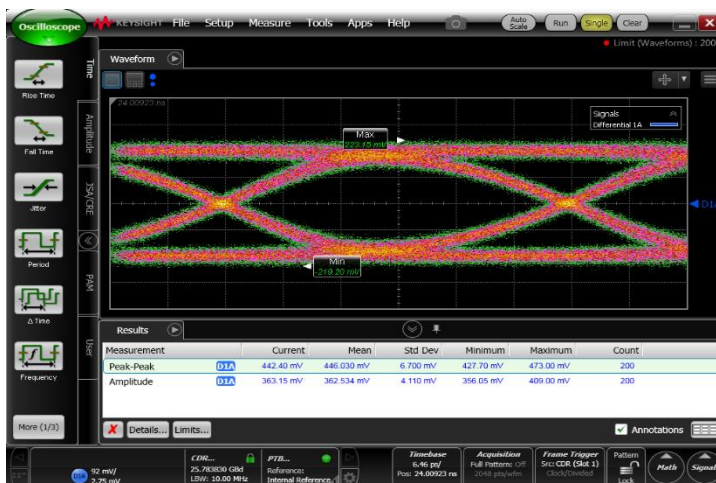
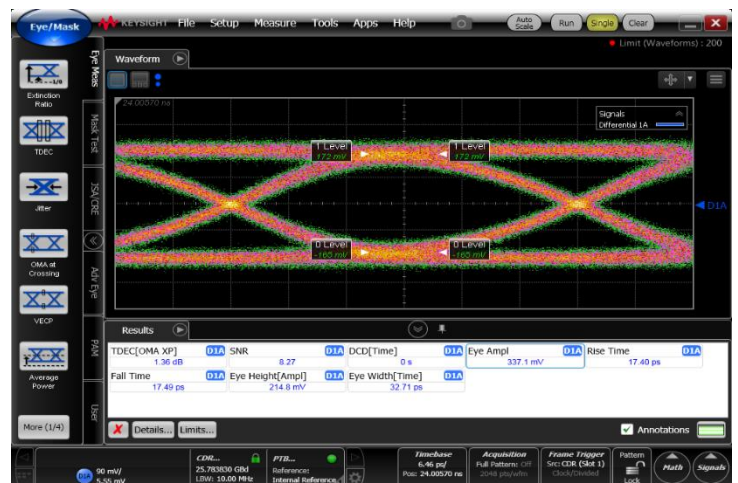

Figure 13. Sample Data: Vp-p, Amplitude
Figure 14. Sample Data: Transition Time + Additional Parameters
8. Typical data shown in Figure 13 and Figure 14 must be recorded for each RX channel.